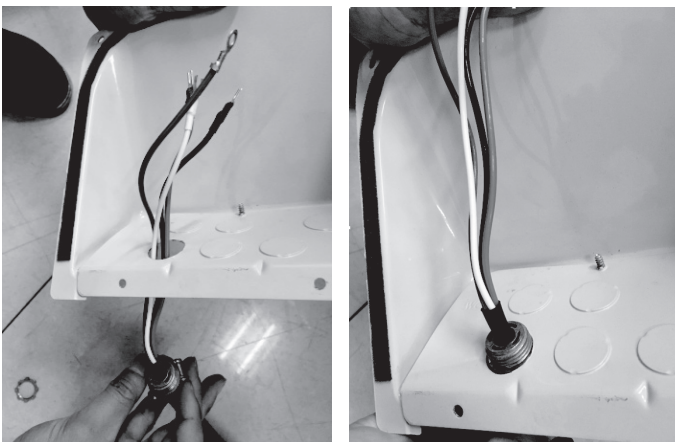

**Fig. 7.2**
1. Remove the screws from the electrical wiring cover from the outdoor condenser, as shown in the image below and **Fig.7.2**, and remove it.
**ALL WIRING MUST BE INSTALLED STRICTLY IN ACCORDANCE WITH THE WIRING DIAGRAM LOCATED AS SHOWN IN FIG. 7.2.**